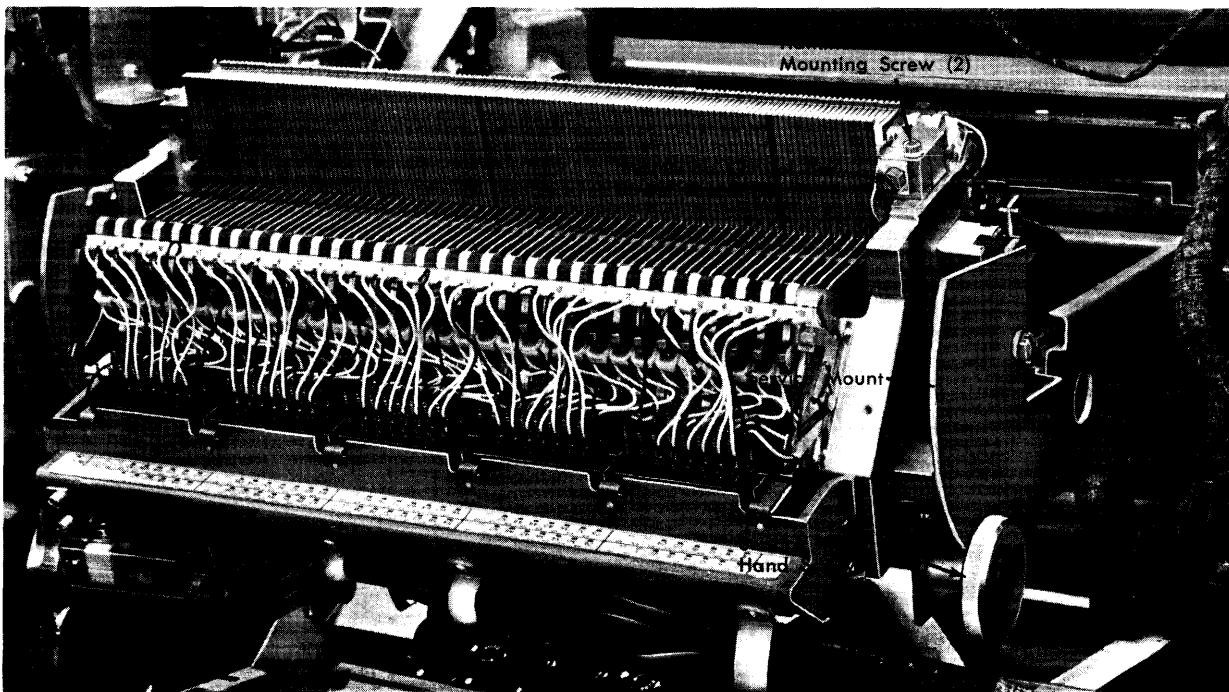

Figure 31. Hammer-Unit (Rotated)
- b. Remove the clips on the service-mount hand screws (Figure 31).
- c. Remove the hammer-bar assembly (see Figure 31).
- f. Remove the mounting screws for the hammer-bar assembly (see Figure 31).